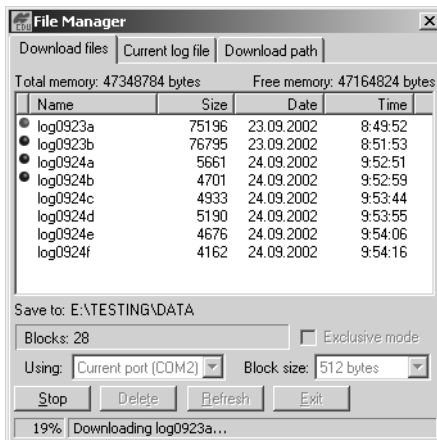

Figure 3-11. Download Files – Status Indicators
9. Click the **Download** button. During the download, status indicators display next to each file (Figure 3-11).